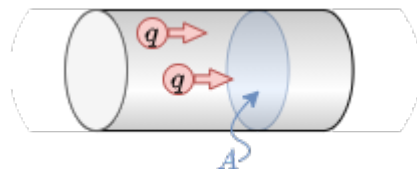

Fig. 3: Part of a Conductor
- In the thought experiment, let the following be given (see figure 3):
- In the case of a uniform charge transport over a longer period of time, i.e. direct current (DC),